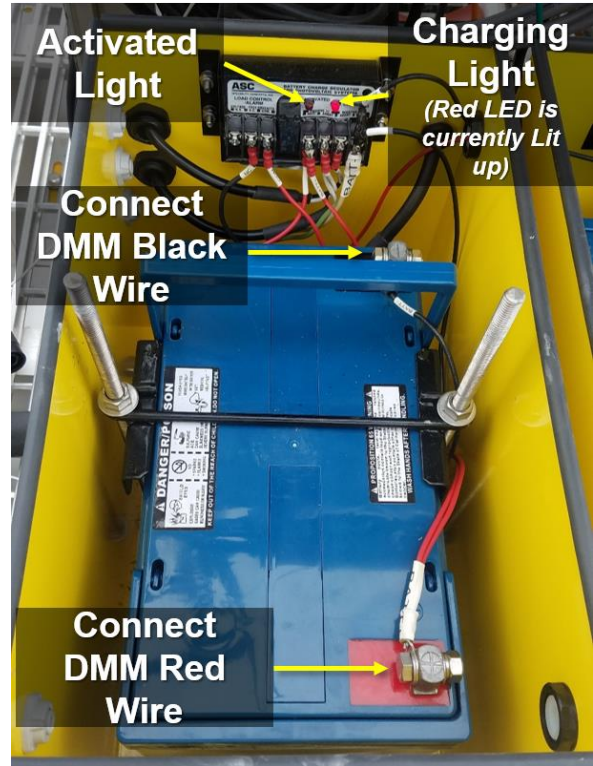

Figure 12. AIS Lake Buoy Battery Box/Enclosure and Battery (Where to Connect DMM)
- a. Use a Digital Multi-Meter (DMM) to check voltage (see Figure 12). Set the DMM for DC (direct current).
- b. The charging light on the charge controller(s) illuminates at least some of the time (it will turn off when the battery is fully charged). Figure 12 displays the charging light lit up, which means the battery is charging.
- c. The Activated light is off (A lit up Activated light means the battery is low and the buoy electronics are off). Figure 12 displays the location of the Activated light.